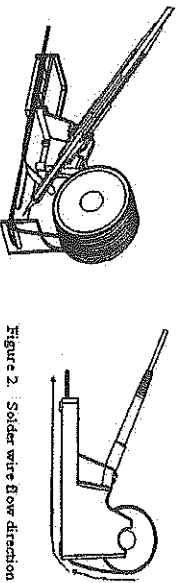

Figure 2. Solder wire flow direction
4. Refer to Figure 2 to set up the solder wire flow direction.